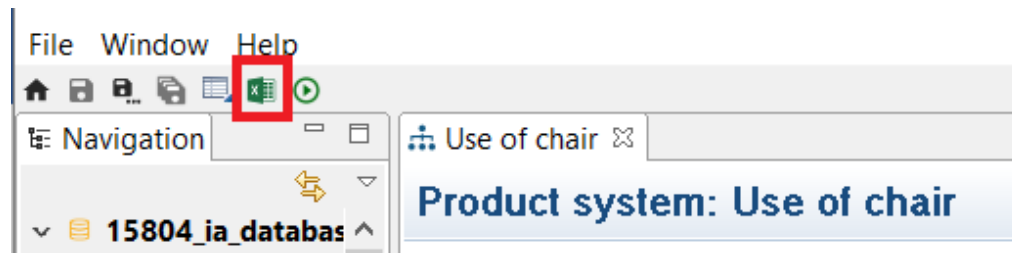
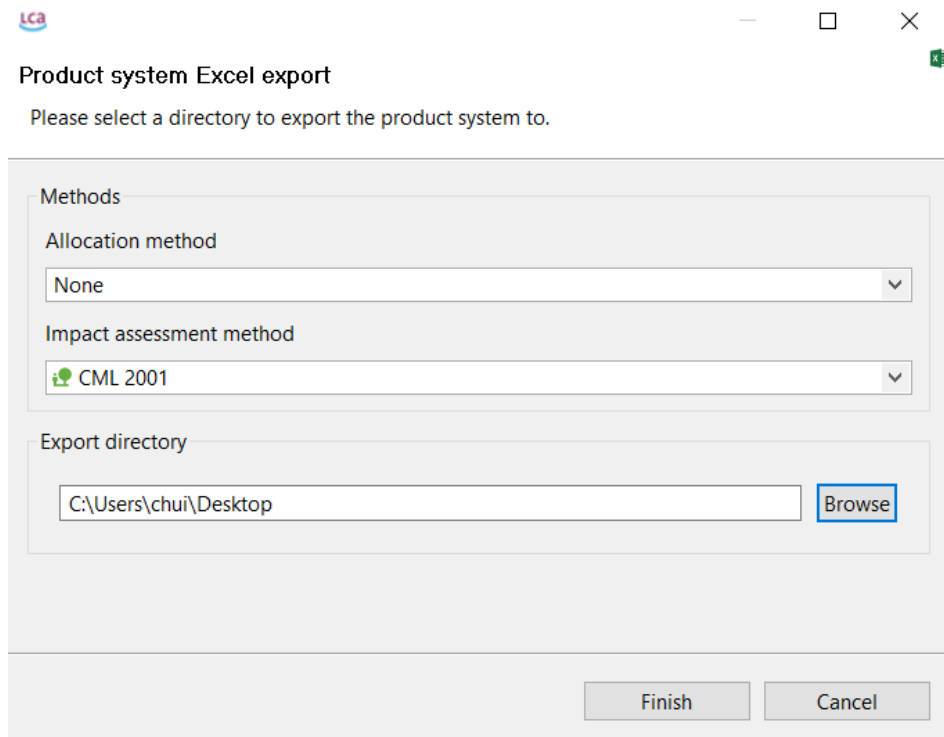

Figure 33: Exporting product system as excel file, step 1
Figure 34: Exporting product system as excel file, step 2
- To export product systems as excel first select the product system in the Navigator to open it up in the Editor. You can then select the excel export icon in the top left-hand corner (Figure 33). The product system Excel export wizard will open. The "Methods" section can be filled out or left blank. Select an export directory and click "Finish" (Figure 34). A folder with one Excel file for Elementary Flows and one for Product Flows will be saved.